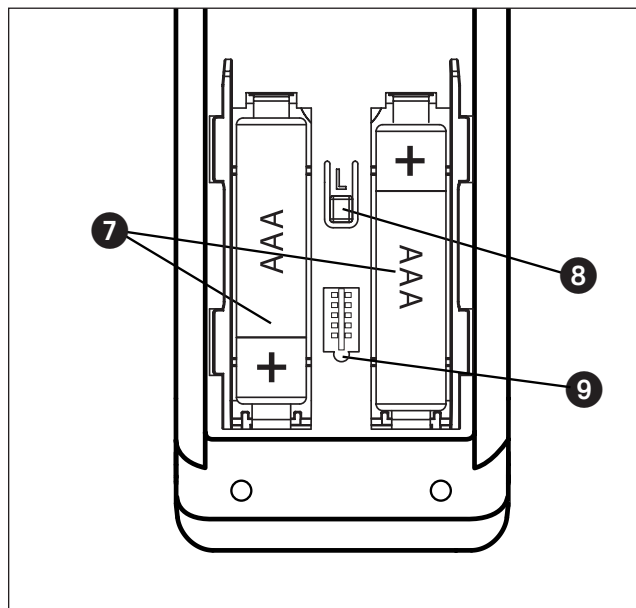

Fig. 3 Back of the WMS Hand-held transmitter basic
- In order to replace the batteries (type AAA, IEC LR03, "Micro"), open the battery compartment (*Fig. 3*) and insert the new batteries. Ensure the correct polarity: The plus (+) and minus (-) poles of the batteries must agree with the marks in the battery compartment.